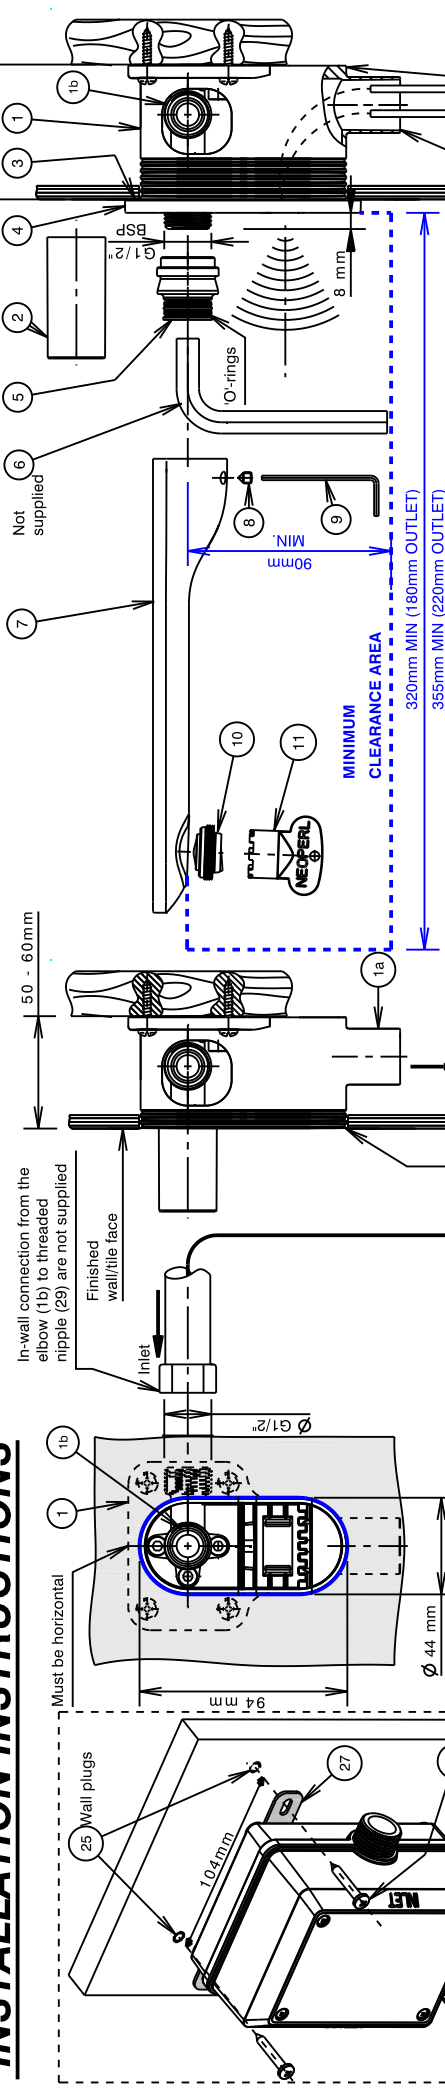

Fig. 1 - In-wall body kit To 'INLET' of solenoid box
- 1) Fit the housing (1) onto a noggin in the wall and secure using 4 screws (not supplied) through the holes, Fig. 1.